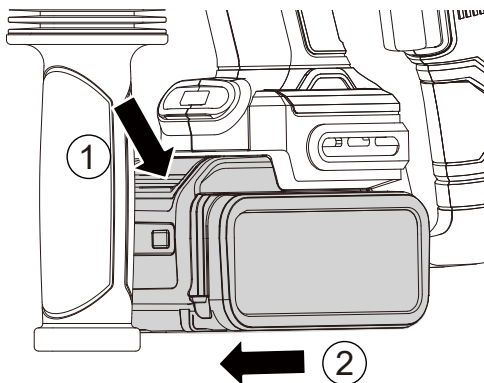

Figure 5-1
5. REMOVING OR INSTALLING THE BATTERY PACK (SEE FIG. 5-1 & 5-2)